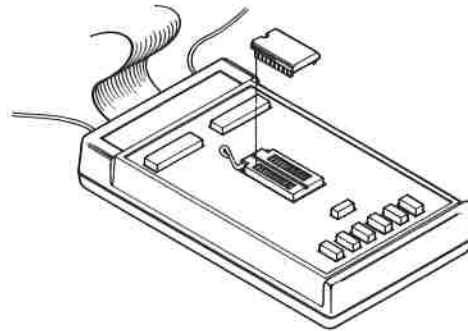

Fig. 4. Inserting The Reference IC.
1. With the lock down lever in the up position, insert a known good IC (identical to the one under test) into the zero insertion force socket on the IC Tester. Make sure that pin 1 of the IC is located at the upper left hand corner of the IC socket on the IC tester as shown in Fig. 4.